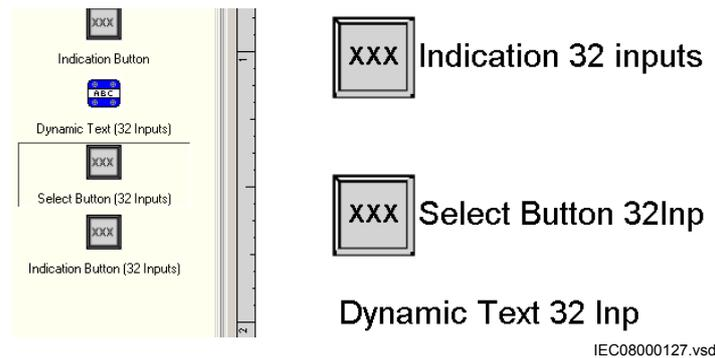

Figure 56: GDE: Dynamic Text symbols
- Select *Dynamic Text* and *Indication* to present the text for the actual value of the function block, see Figure 56.